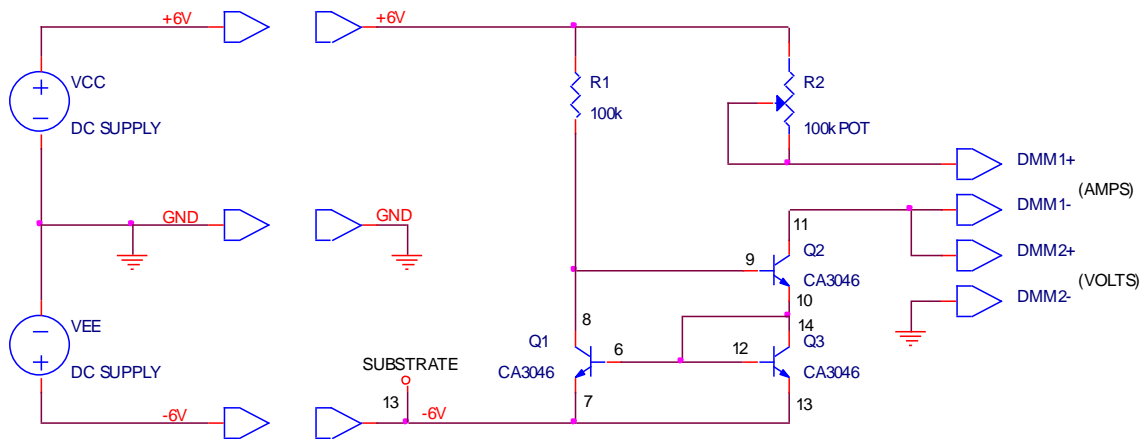

Figure E3.3
**Set-Up** Construct the circuit shown in Fig. E3.3 using the following components: